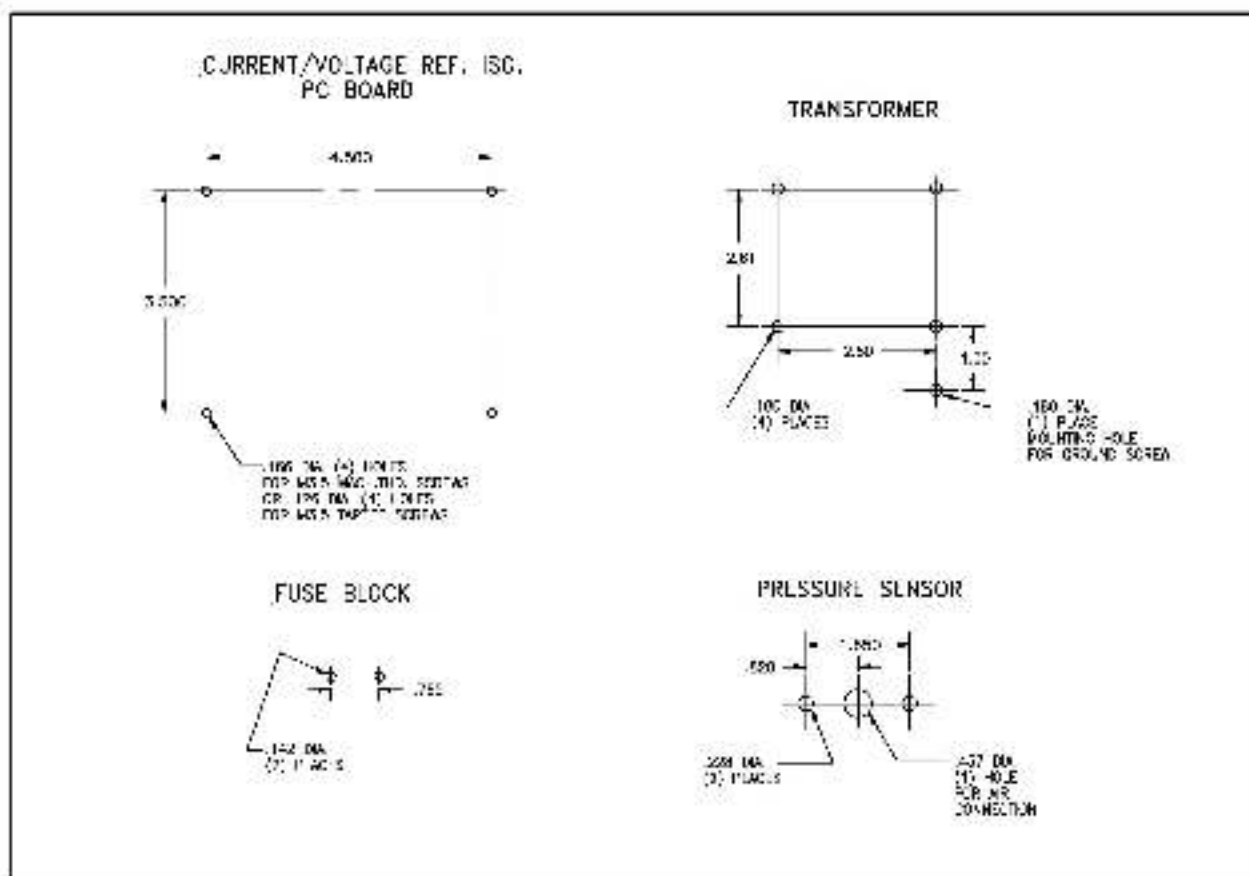

Figure 1. Pressure-to-Electrical Transducer Component Mounting Hole Dimensions.
2. Mount the Pressure-to-Electrical Transducer components. Refer to Figure 1 for mounting hole detail.